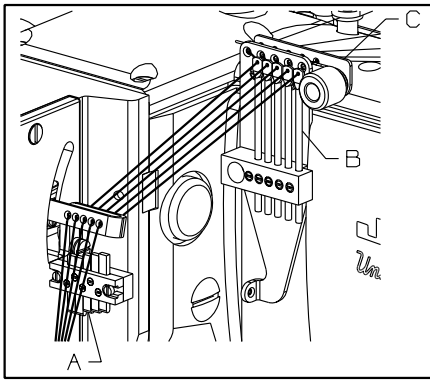

FIG. 32
Five needle thread strike-off pins (A, Fig. 32) are provided for independent needle thread control. Level the take-ups to the height of the thread in the needle lever eyelet at its lowest position. Raise the first take-up (nearest the operator) 1/8" (3.2mm), the second take-up 3/32" (2.4mm) and the third 1/16" (1.6mm). Further adjustment may be necessary to obtain proper needle loop size so skipped stitches may be avoided.
Set the five frame needle thread eyelets (B, Fig. 32) eye with the eyelets in holder (C). Adjust as necessary so the needle thread loops around the looper will remain firm and not seek random positions when the needle bar descends.